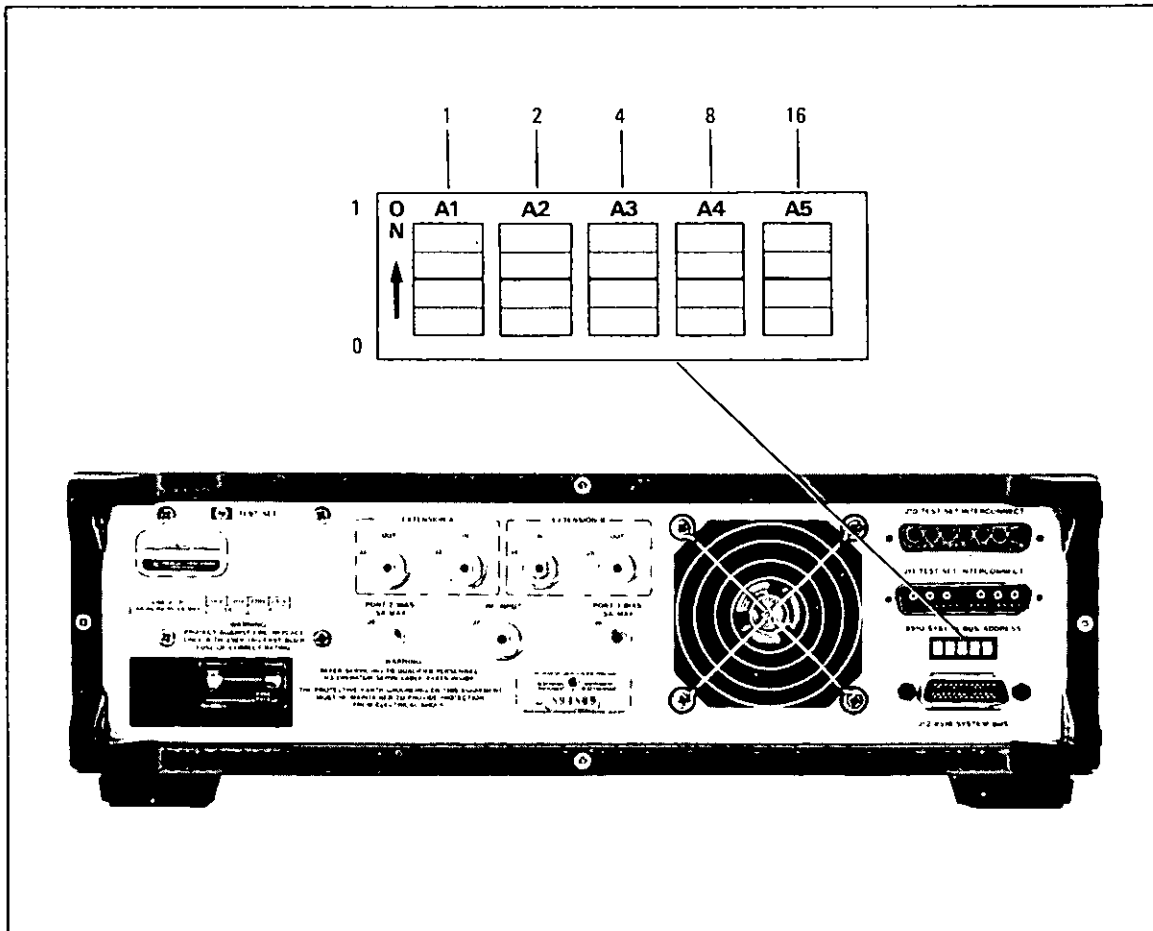

Figure 2-8. Setting the Test Set HP-IB Address
Figure 2-8 shows how to check and set the address of HP 8511A - HP 8515A test sets. In the example shown, the test set address is set correctly to 20. The address is read in binary, with the most significant digit on the right. Thus the address shown, in binary, is 10100, which corresponds to a decimal address of 20. To change the address, set the five switches either on (1) or off (0) to produce the desired address in binary.